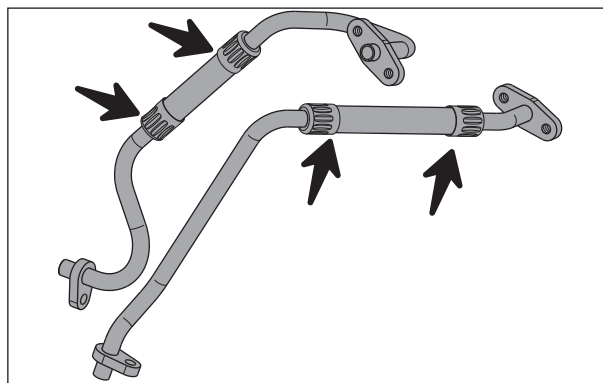

Fig. 2.63
- Visually inspect the cooler assembly inlet and outlet pipes for any crack, leakage, damage or deformation. (Fig. 2.63)